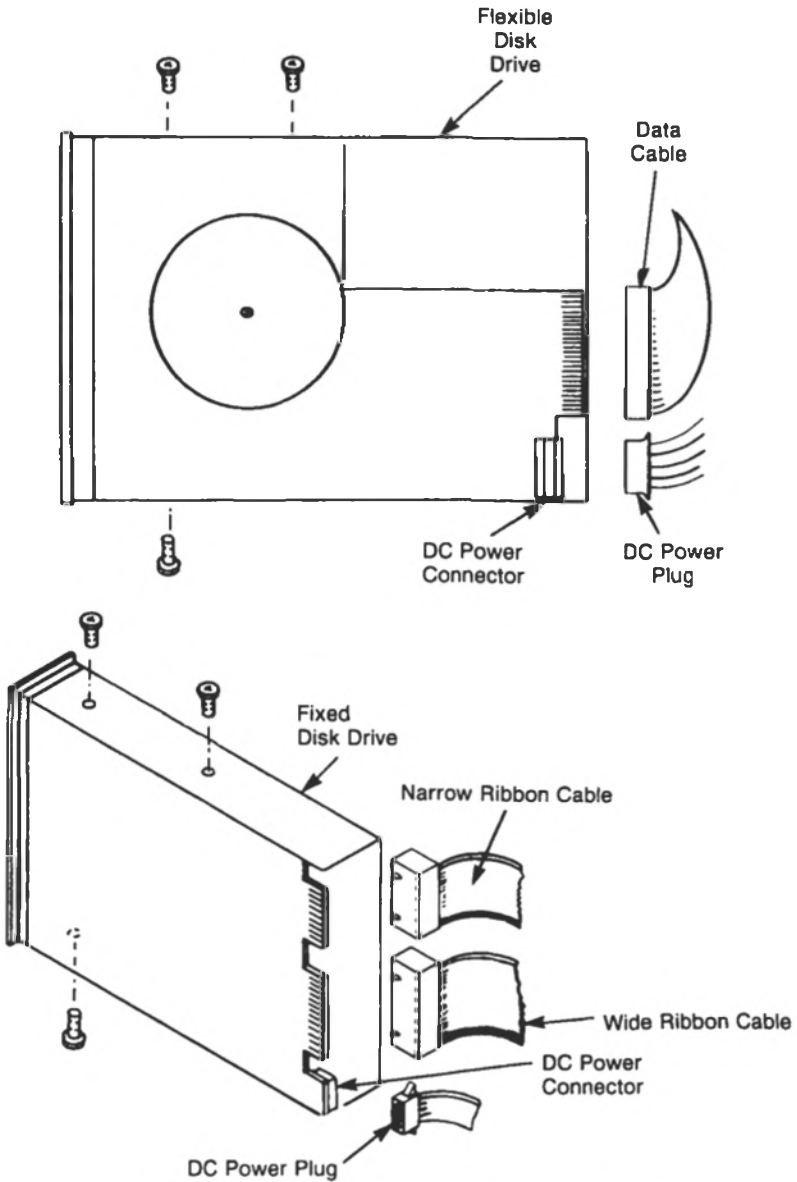

Figure 3-42 Ribbon Cable and Power Harness Removal
- Disconnect the ribbon cables and the DC power plug from the drive (see Figure 3-42).